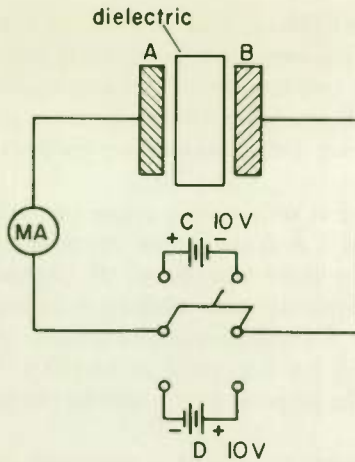

Fig. 39
4. In Fig. 39, when battery *C* is connected in the circuit, a charge is stored in the capacitor. What happens when battery *D* is then switched into the circuit?
5. If the switch in Fig. 39 is closed so as to connect battery *C* to the capacitor and then opened a while later, what will be the voltage across the capacitor?